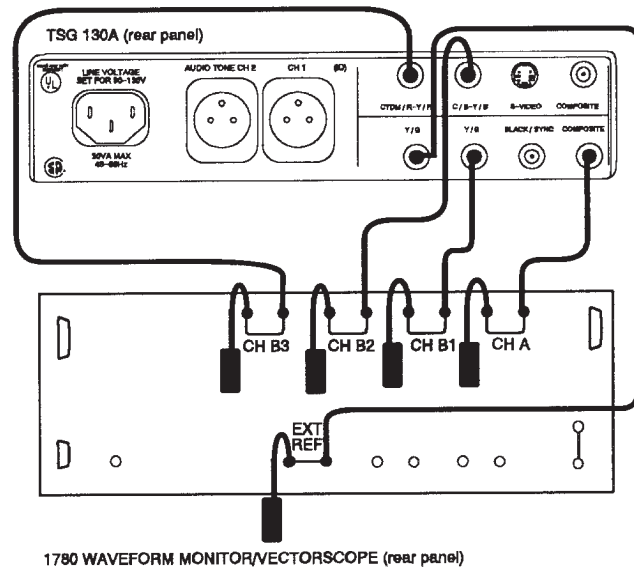

Figure 5-3: Setup for remaining standard performance checks (EXT REF cable moved to Y/G output)
- a. Connect the equipment as shown in Figure 5-3.